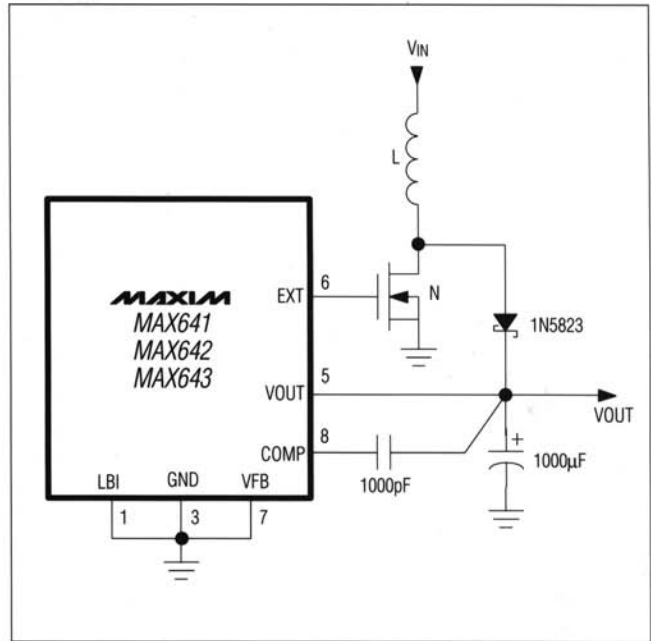

Figure 5. High Output Current Step-Up Converter (See Table 2)
**Table 2. Inductance Values for Commonly Encountered Power Supplies (Figure 5)**
Inductance values for commonly encountered power supplies are listed in Table 2. The data in Table 2 refers to the circuit in Figure 5.
Figure 5 shows the standard circuit configuration for a fixed output step-up DC-DC converter. The output power is determined by the current ratings of the external MOSFET and inductor, as well as, the switching time of the EXT output into the gate capacitance of the MOSFET.